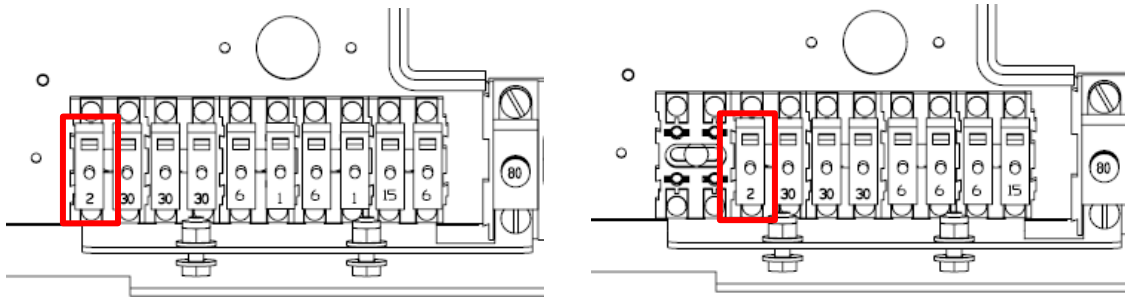

Figure 4: Breaker installation. Left: SR-2115/15. Right: SR-2130
7. Install "F2TR", BREAKER 2A ETA MAN (P/N: 218992) on 24VBATRR as shown in Figure 4.